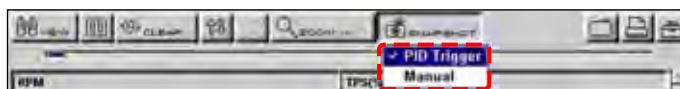

Figure 5-27 Sample armed triggering
- Select from the drop-down menu (Figure 5-27):